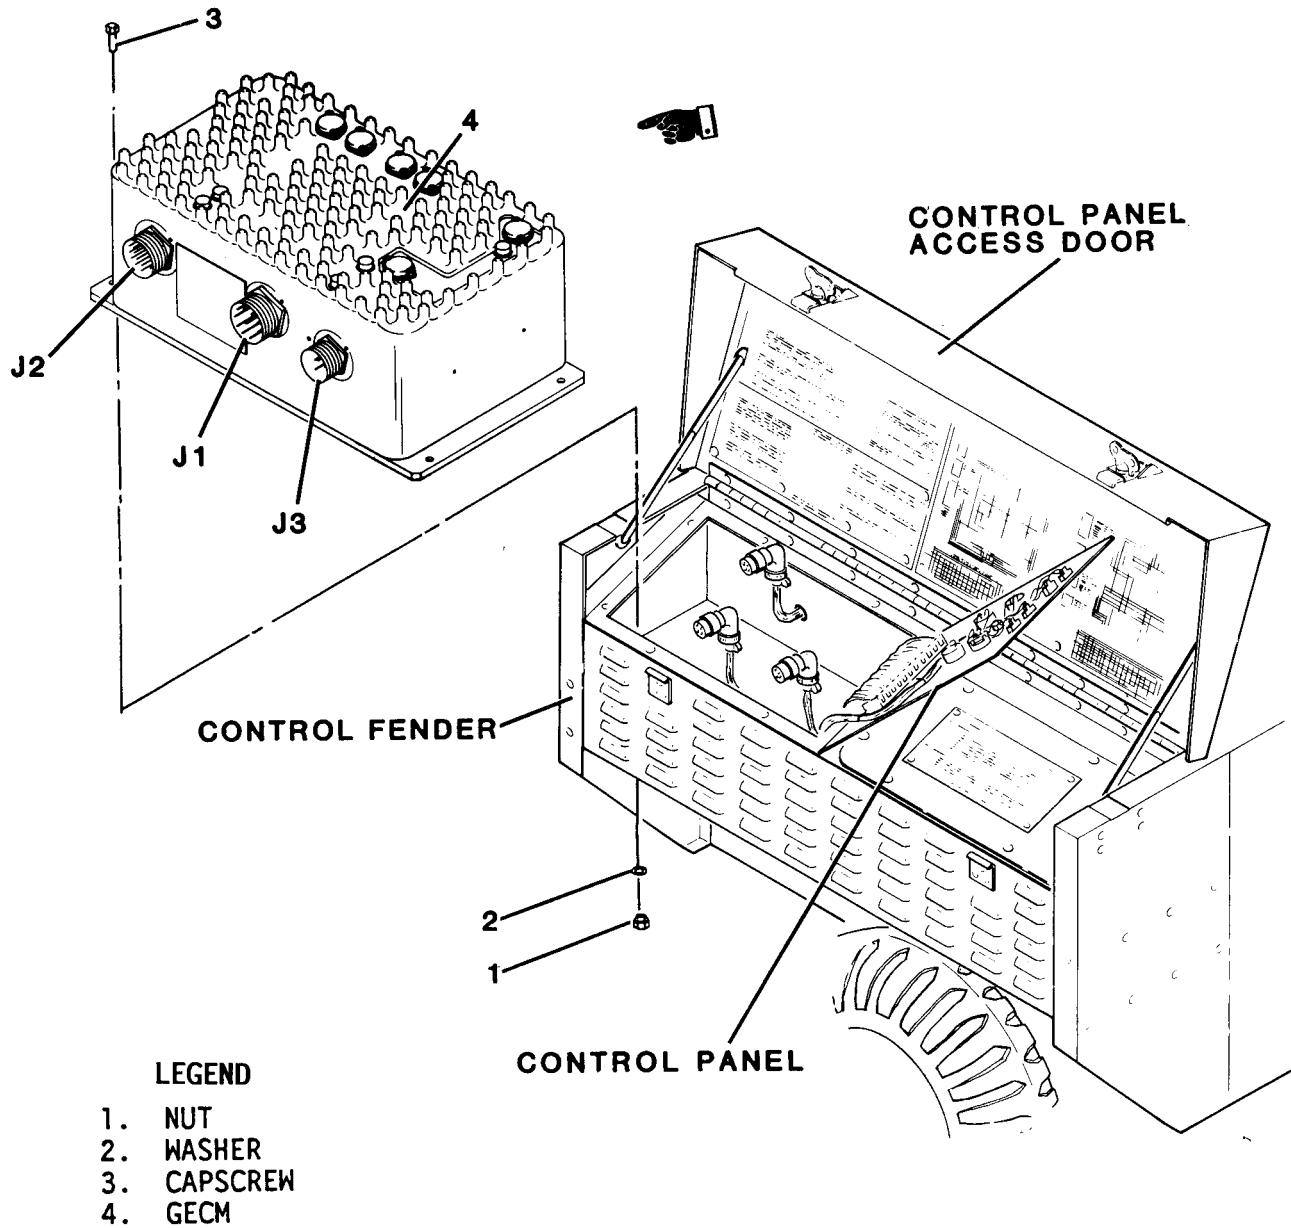

Figure 4-17. GECM Replacement
(1) Install slave receptacle (11) in output/slave housing (12) and secure with screws (8), washers (9), and self-locking nuts (10). Torque to 74-82 inch pounds (8.4-9.3 Nm).
(2) Install slave receptacle leads (4) on feedthrough terminals (7) and secure with washers (6) and nuts (5). Torque nut on 3/8 inch stud to 200-275 inch pounds (22.6-31.1 Nm). Torque nut on 1/2 inch stud 500-650 inch pounds (56.5-73.4 Nm).
(3) Install output/slave housing access cover (3) and secure with washers (2) and screws (1). Torque to 24-36 inch pounds (2.7-4 Nm).
(4) Stow power cable on cable support assembly.
(5) Connect battery cable plug connector to battery.
**4-30. GENERATOR ELECTRONIC CONTROL MODULE.** Maintenance of the generator electronic control module (GECM) (figure 4-17) consists of replacement. When testing/troubleshooting procedures isolate the GECM as the cause of a malfunction, remove the GECM and send to direct support maintenance for repair.